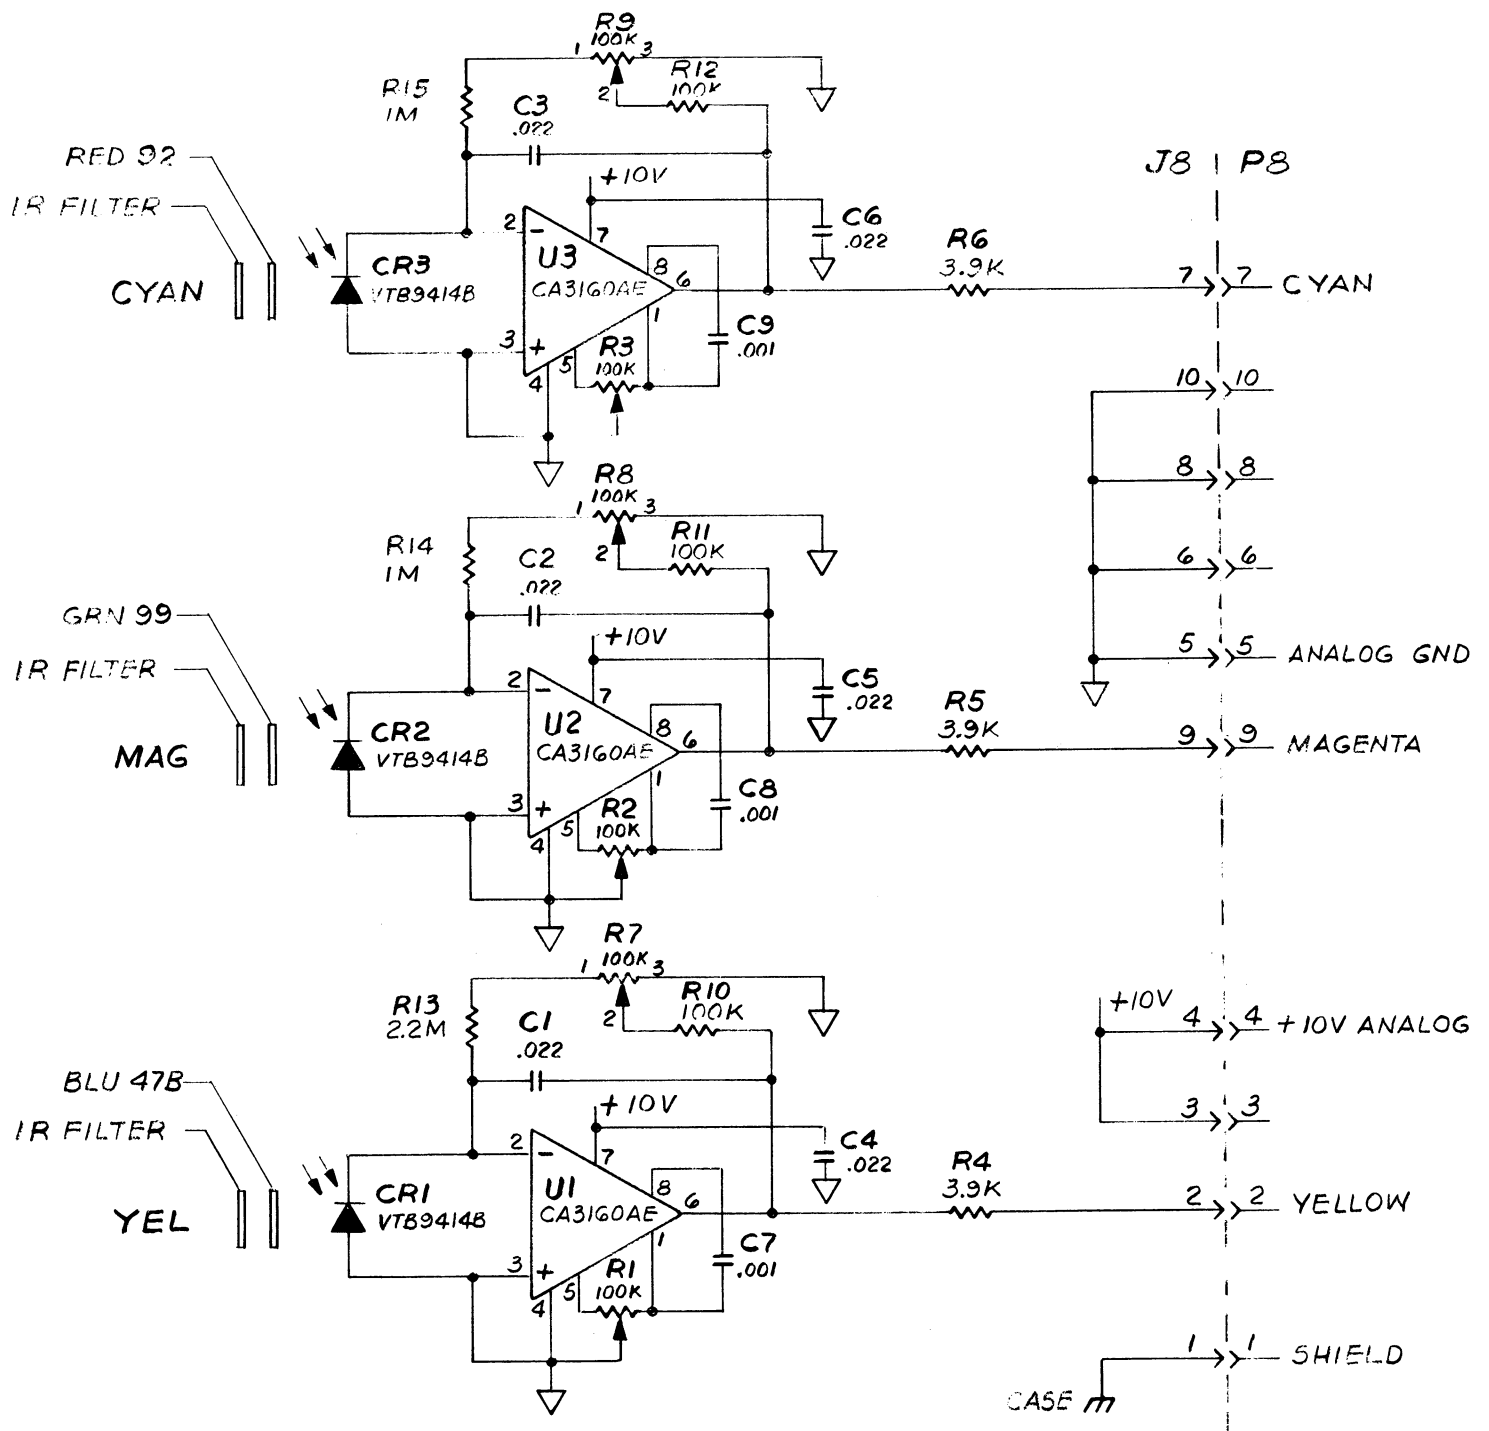

Figure 4-6. Color Balance Probe, Schematic Diagram
- Figure 4-6. Color Balance Probe, Schematic Diagram